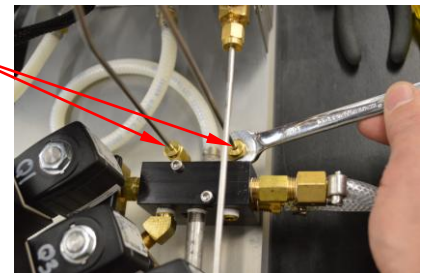

Figure 3
- e. Finger tighten the brass nuts onto the new X64.5. Then using a 7/16" wrench tighten no more the 1/8" turn. See Figure 3.